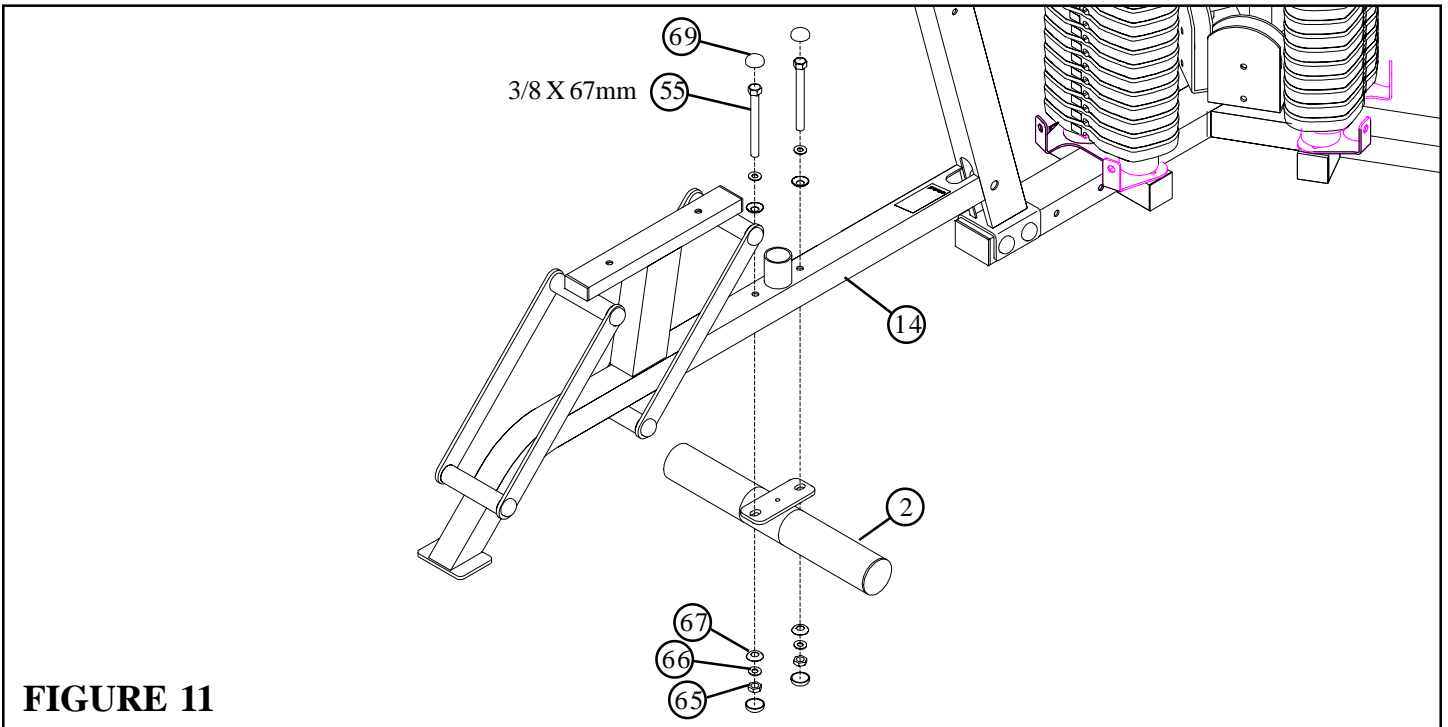

FIGURE 11
- **SECURELY** assemble FOOT REST (2) to the LAT/LOW FRAME (14) using four RH CAPS (69), two 3/8 X 67mm BOLTS (55), four 3/8 SAE WASHERS (66), four 3/8 RH WASHERS (67) and two 3/8 LOW HEIGHT LOCK NUTS (65) as shown in FIGURE 11.